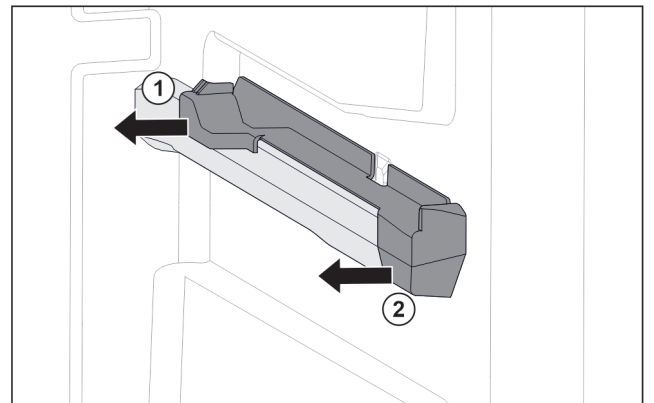

Fig. 61 Attachment on the right moulded rib
- ▶ Grab attachment at the back from below. Fig. 61 (1)
- ▶ Pull off attachment at the back sideways. Fig. 61 (1)
- ▶ Pull off attachment at the front sideways. Fig. 61 (2)